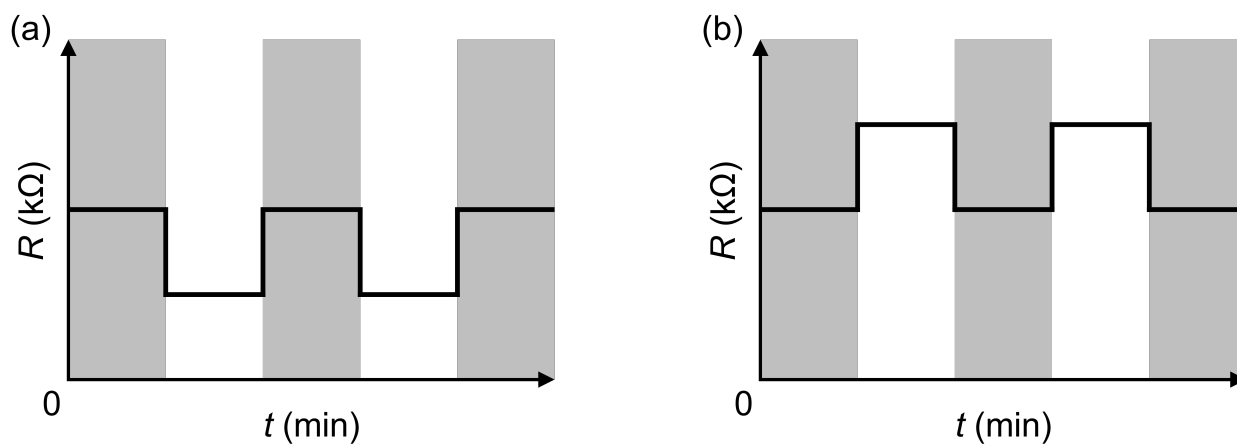

Figure 1: plot of resistance against time for two possible signal types, (a) and (b).
**X** is an example of a semiconductor where electricity is carried by positive charges (holes). For a resistive gas sensor based on **X**, the resistance  $R$  is measured over time  $t$ , while passing a gas over the sensor. This allows redox reactions to occur between the gas and the semiconductor surface, which will change the resistance of the sensor depending on the donor/acceptor properties of the gas. **Figure 1** shows the two different types of signal obtained this way.